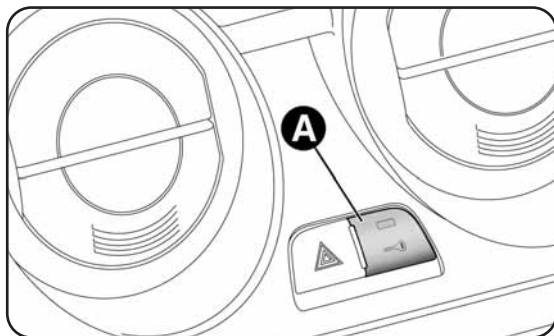

fig. 56
With the doors closed press button  on the remote control or turn the metal insert (located inside the key) in the driver-side door lock. Locking is signalled by the LED on button A-fig. 56 coming on.
**IMPORTANT** When the central locking system is on, lifting the interior opening lever of one of the doors causes the door to unlock (in the case of the passenger door, the led on button A-fig. 56 remains lit).